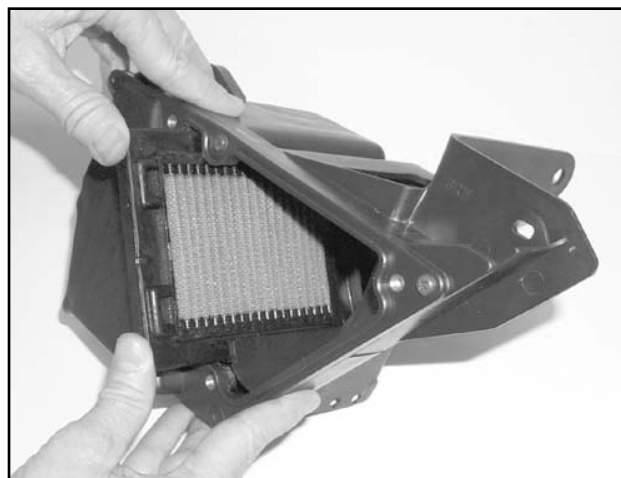

Fig. 1
4. Install the K&N Air Filter by pushing on the outer edges. (Fig. 1) Some pressure will be required until the filter is completely seated.